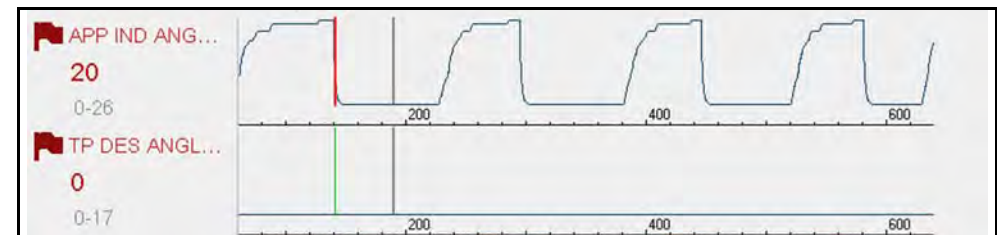

Figure 7-14 Triggers activated
- A red cursor line is displayed on the graph (Figure 7-14) of the PID with the activated trigger to indicate where the trigger occurred.